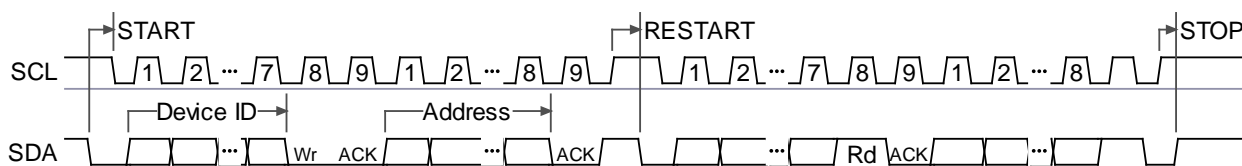

Figure 12. I2C byte write and byte read timing.
**STOP** is stop bit; any sequence must end with it. The I2C write operation is byte write mode, and read operation is byte read mode as described in **Figure 12**. The current I2C protocol speed support up to 50 KHz.